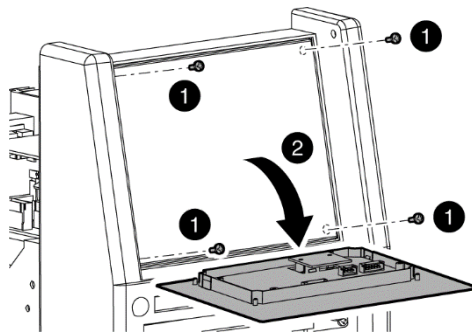

Figure 6-2 : VRD ON/OFF Step B, C
Remove four mounting screws from the control panel (see Figure 6-2).
- b) Access the VRD control by gently prying back the front panel controls to reveal the VRD on/off potentiometer (see Figure 6-2).